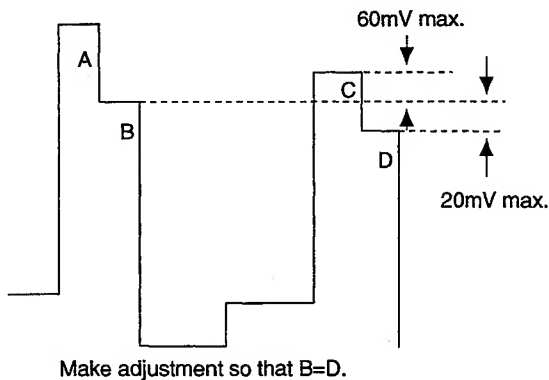

Fig. 5-20
- 2) Connect the probe of an oscilloscope to IC404 ④PIN or TP401.
- 4) Adjust **R-Y LEVEL PAL** so that the peaks of waveforms will be flush with each other as shown Fig.5-20.